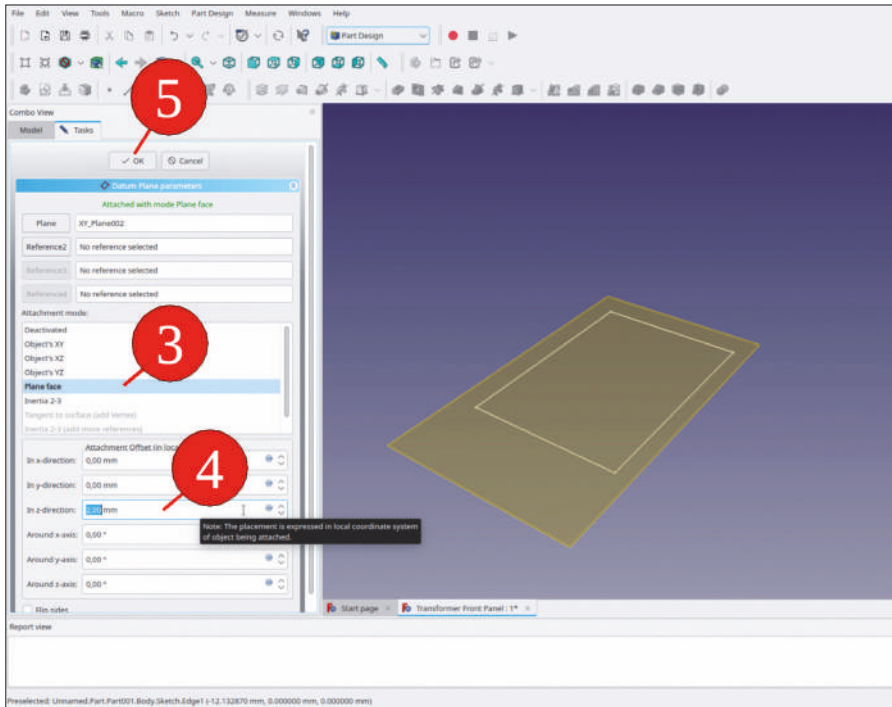

Figure 9-7
- For the attachment Z offset, enter a value of 2 mm (Figure 9-7) and then close the task window with the OK' button. This offset represents the panel thickness.